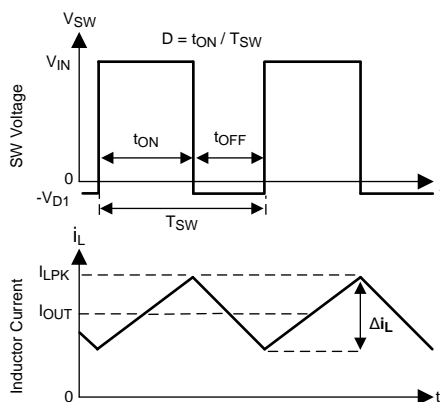

Figure 33. SW Node and Inductor Current Waveforms in Continuous Conduction Mode (CCM)
The following operating description of the LM43600 will refer to the *Functional Block Diagram* and to the waveforms in *Figure 33*. The LM43600 is a step-down Buck regulator with both high-side (HS) switch and low-side (LS) switch (synchronous rectifier) integrated. The LM43600 supplies a regulated output voltage by turning on the HS and LS NMOS switches with controlled ON time. During the HS switch ON time, the SW pin voltage V_{SW} swings up to approximately V_{IN} , and the inductor current i_L increases with a linear slope $(V_{IN} - V_{OUT}) / L$. When the HS switch is turned off by the control logic, the LS switch is turned on after a anti-shoot-through dead time. Inductor current discharges through the LS switch with a slope of $-V_{OUT} / L$. The control parameter of Buck converters are defined as Duty Cycle $D = t_{ON} / T_{SW}$, where t_{ON} is the HS switch ON time and T_{SW} is the switching period. The regulator control loop maintains a constant output voltage by adjusting the duty cycle D . In an ideal Buck converter, where losses are ignored, D is proportional to the output voltage and inversely proportional to the input voltage: $D = V_{OUT} / V_{IN}$.